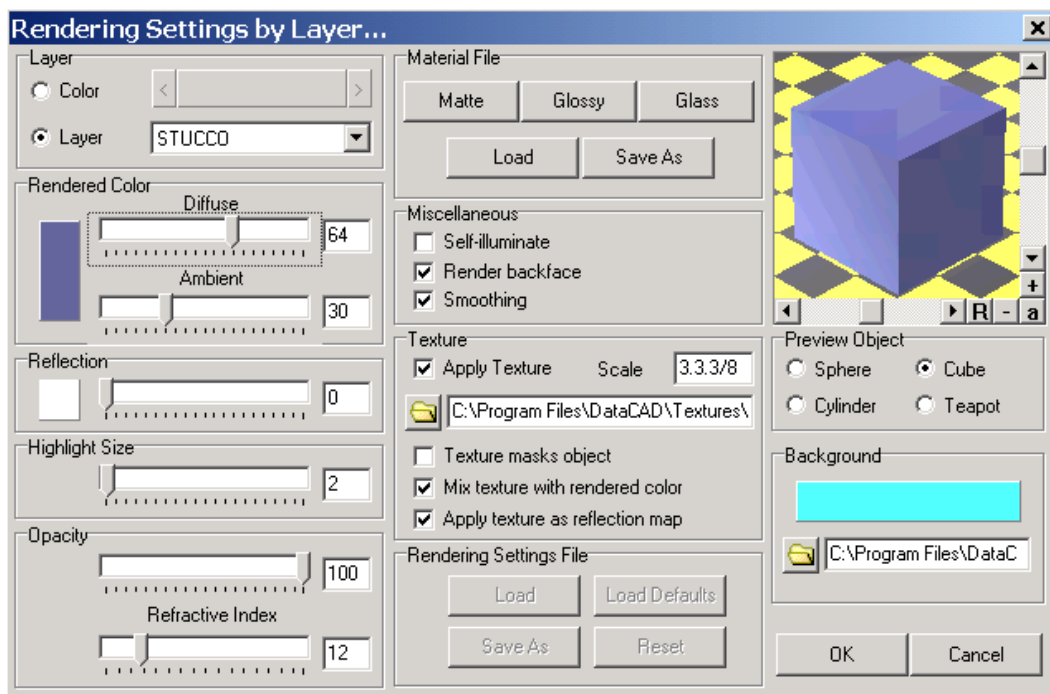

Figure 25.21: The decisions you make affect the Preview model.
6. Select Object Viewer from the View menu. The Object Viewer appears. The decisions that affect the STUCCO layer (see Figure 25.21) appear in the Object Viewer. If you are unhappy with the way the material looks, you can return to step 1 and go through the process again.